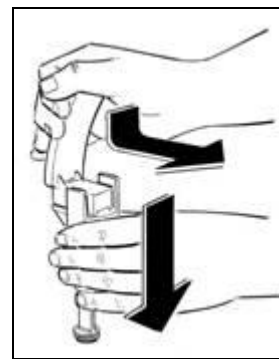

Fig. 5
- **D**isassemble the tap by keeping the body pressed down and slipping the lever from its seat (fig.5).